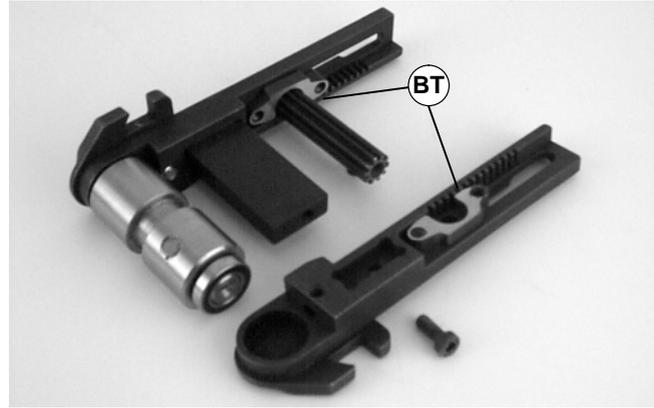

Figure 54
**IMPORTANT:** On a tension tail assembly, orient both pinion housings (BT of Figure 54) so they engage the same tooth positions on their respective racks.